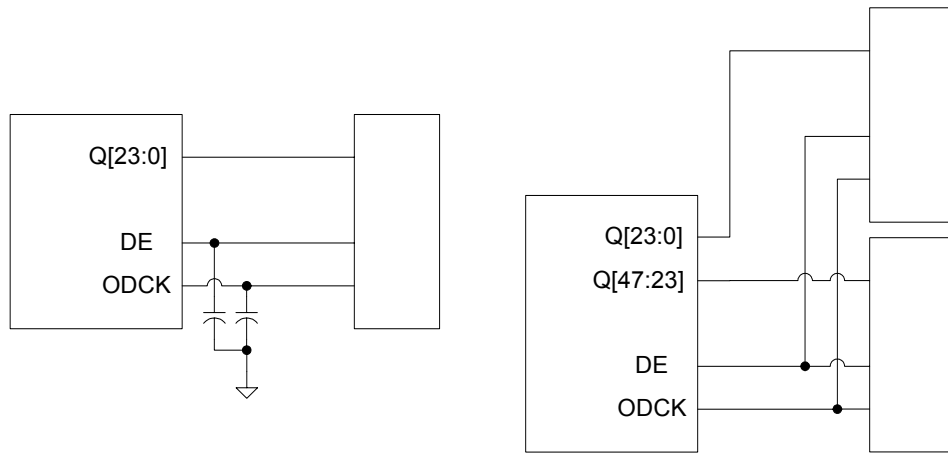

Figure 3. Output Loading in SiI 161B Mode
2. ODCK and DE output pins should be loaded with 10pF when ST=0 and 20pF when ST=1. If layout requires only a point-to-point, one load net, a discrete capacitor should be added to the net to create these loads. See Figure 3.